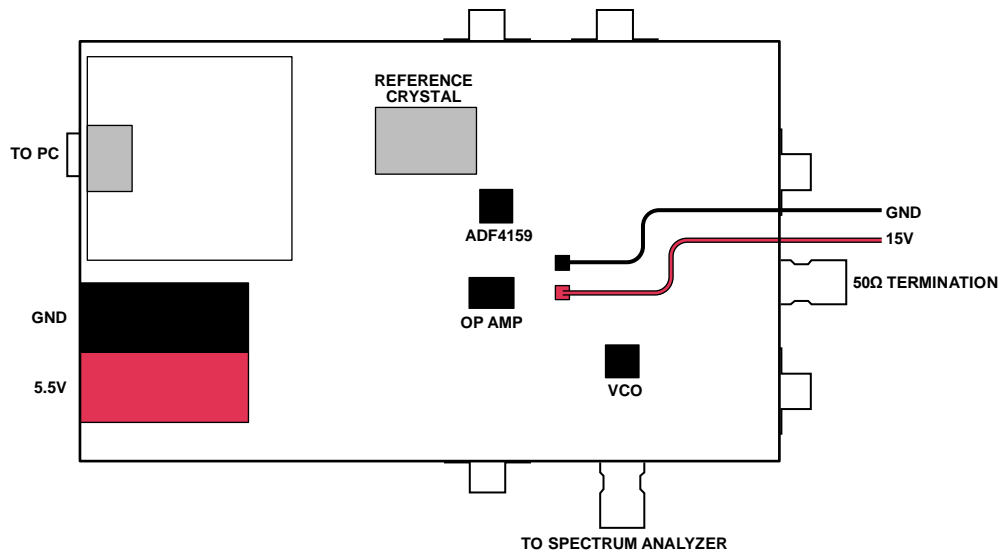

Figure 4. Evaluation Setup Block Diagram
1. Set up the circuit as shown in Figure 4.